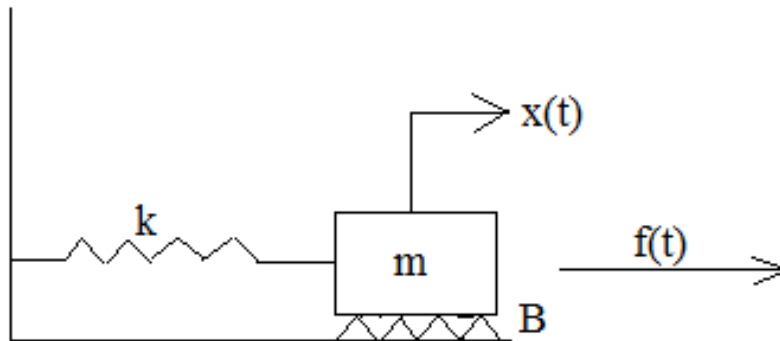

Fig.1: A mass-spring-damper system (Figure for Q.7)
Q.7: Consider the mass-spring-damper system shown in Fig.1. Design a control system for regulating the position of mass, using a
a) proportional derivative (PD) control strategy.